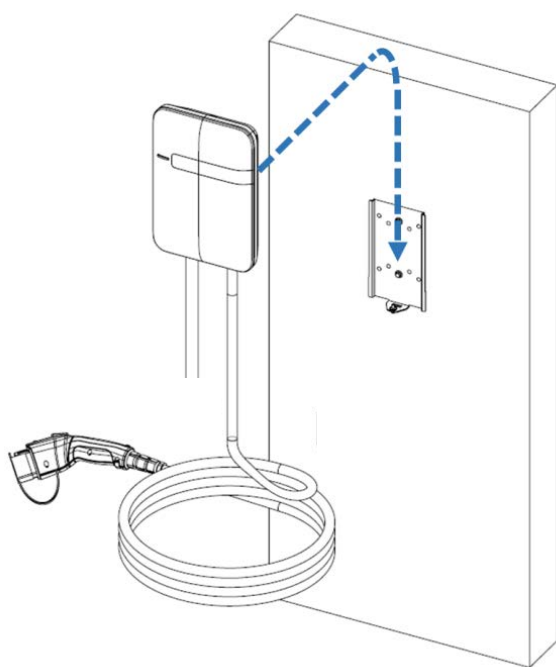

Figure 2-8 Charging station and mounting bracket
7. As shown in Figures 2-8 & 2-9, mount the charging station onto the mounting bracket and secure the lock screw.